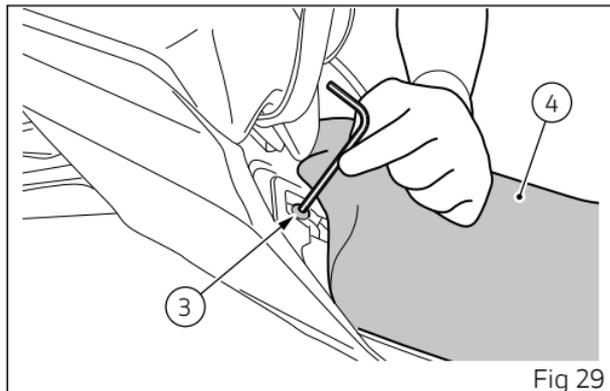

Fig 29
- Refit the seat by first inserting the brackets of seat (5) in the frame (6) brackets and the placing the rear part of the seat on the frame;
- Lift the rear edges of the seat (4 Fig 29) and fasten it by tightening screws (3, Fig 29);